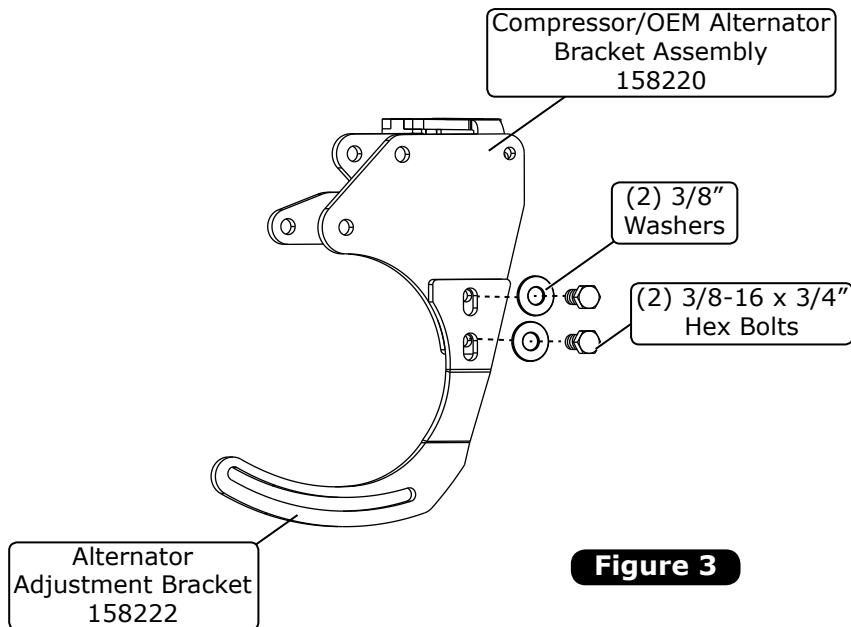

Figure 3
5. Once the bracket mounting position is determined, use (2) 3/8-16 x 3/4" hex bolts and (2) 3/8" flat washers to mount the alternator adjustment bracket to the compressor/OEM alternator bracket as shown in Figure 3, below.